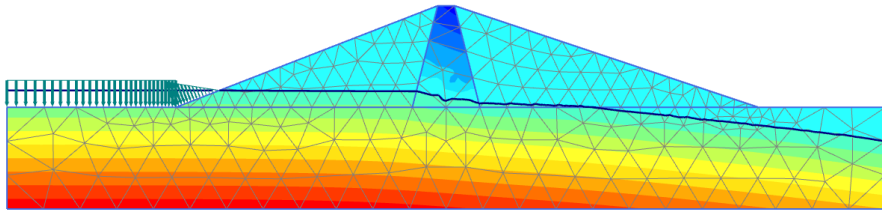

Figure 8.17 Pore pressure distribution, ( $p_{active}$ ), for low reservoir level
- The steady-state situation with a low reservoir level (Figure 8.17).